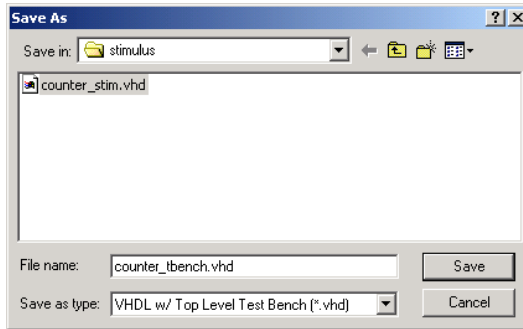

Figure 3-16. Export VHDL Testbench Save As Dialog Box
8. Select **VHDL w/ Top Level Testbench** in **Files of Type** and enter `counter_tbench.vhd` for the file name, as shown in Figure 3-16.